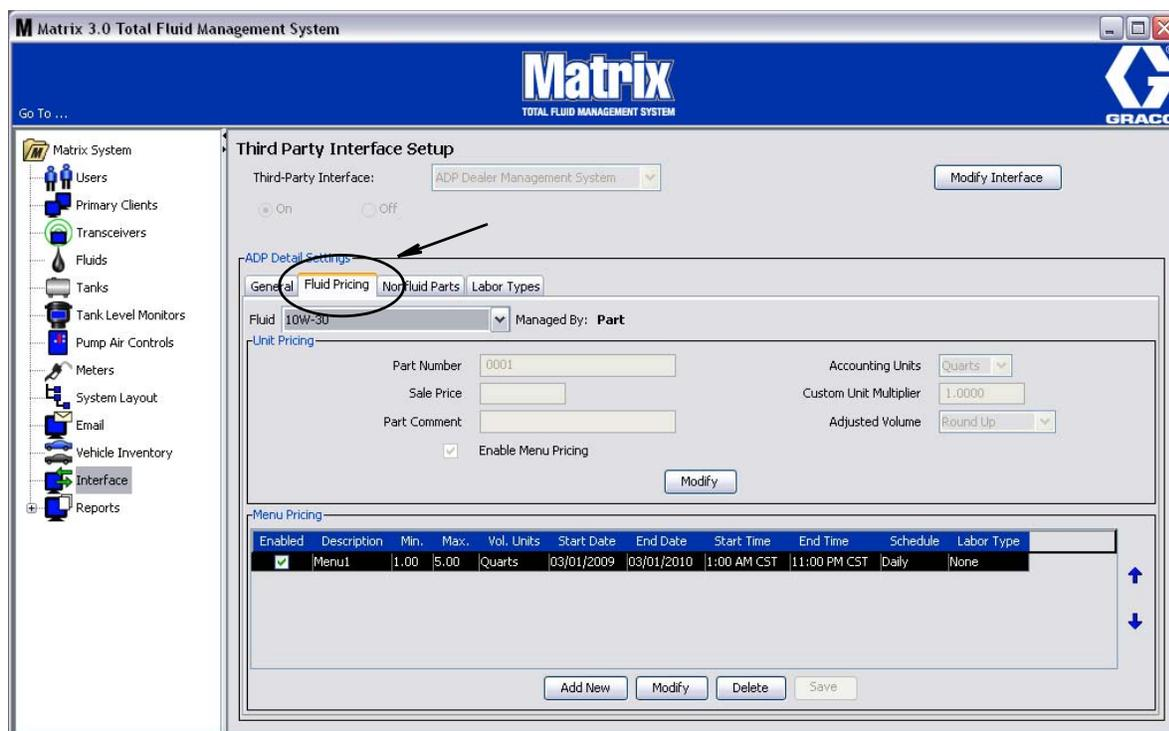

FIG. 181 CDK Global Fluid Pricing Tab
2. Click the **Modify Button** (FIG. 181) to display the unit pricing configuration dialog box.
1. Select a specific fluid from the Fluid drop down box and then click the **Add New** button (FIG. 181, page 134) on the Fluid Pricing Tab.